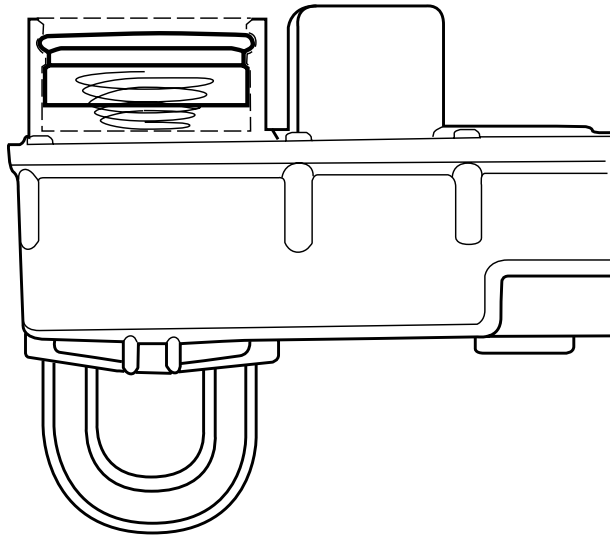

Figure 2. Internal sleeve inserted into indicator boot
4. **Insert the internal sleeve** into the indicator boot. (See Figure 2.)